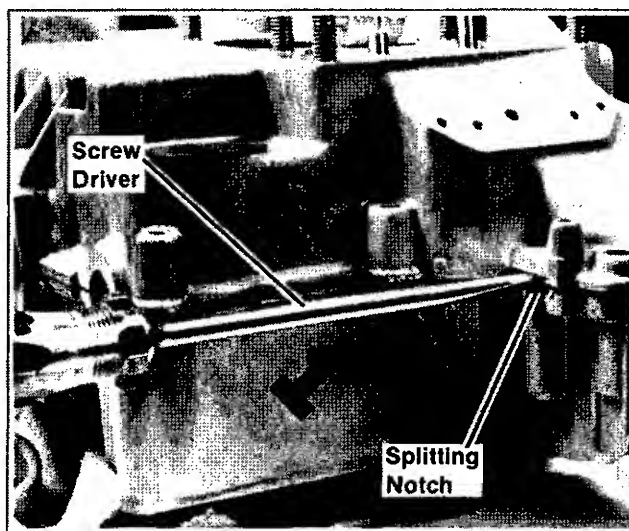

Figure 7-16. Splitting the Crankcase
7. Lay crankcase down so that #2 side is up. Locate the crankcase splitting notches in the seam formed by the two halves. With the tip of a large flat blade screwdriver, pry the two case halves apart as shown in Figure 7-16.